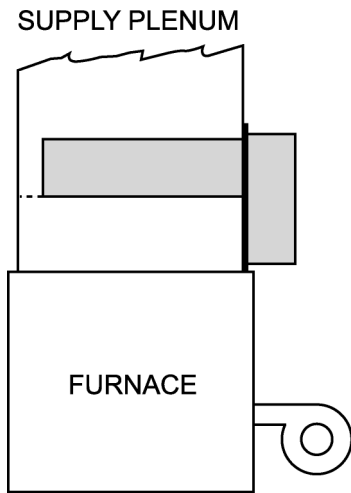

FIG. 1
- 4) The position of the add-on heater must be as indicated on the front of the heater control box (Please see Fig. 1).